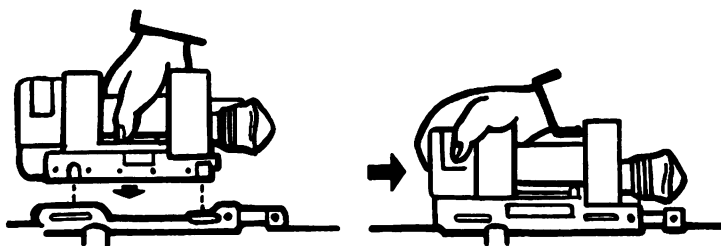

Figure 8.
8. Place tracker guide pins in slots of tracker support guide rails, then push tracker firmly to the rear using both hands, until it locks in place (figure 8).